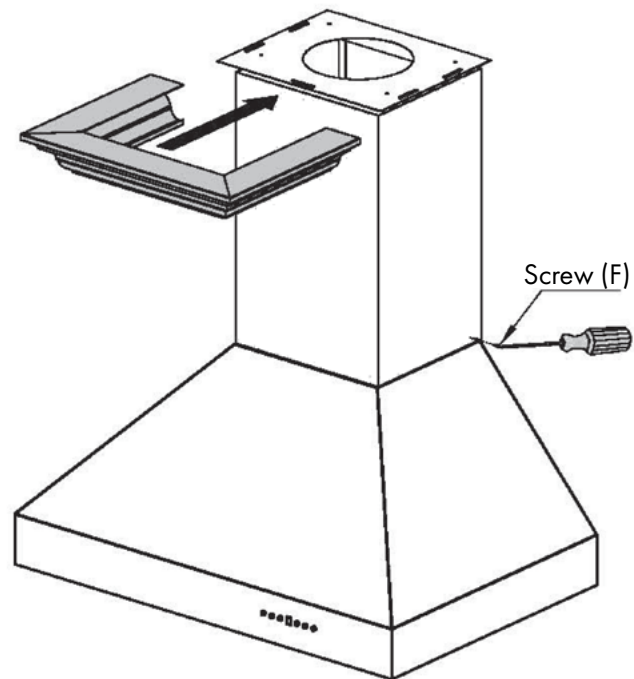

Figure 10
3. Attach the telescoping chimney sections to the range hood as noted on page 9, then connect the chimney to the crown molding bracket. *Figure 10*